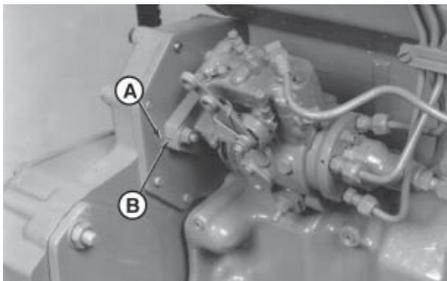

Figure 19 Reproduced by permission of Deere & Company, c2000. Deere & Company, All rights reserved.
9. Align timing mark on the pump flange (Figure 19-B) with timing mark on the cylinder block front plate (A).